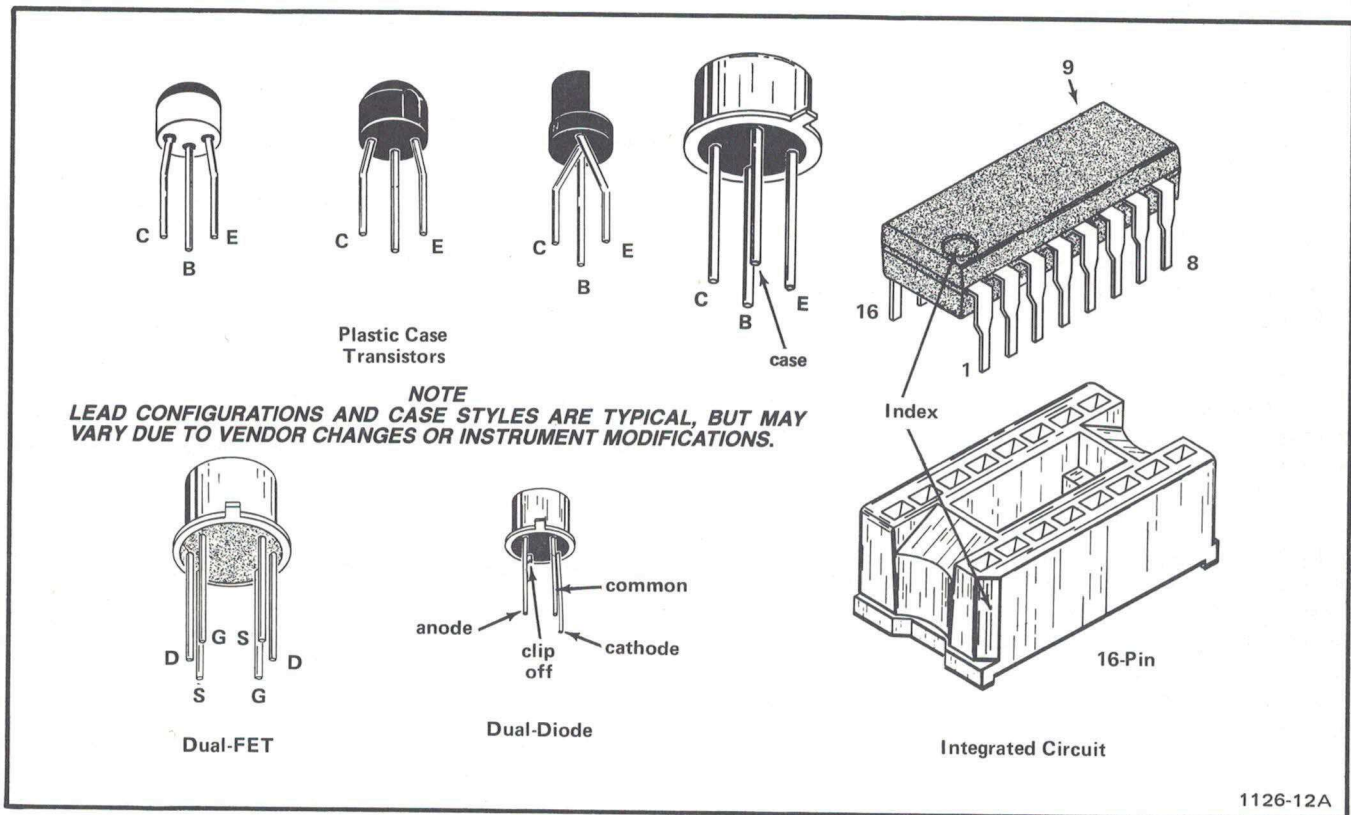

Fig. 5-1. Electrode configuration for semiconductors used in this instrument.
Semiconductor Lead Configuration. Figure 5-1 shows the lead configuration of the semiconductor devices used in this instrument.
A. TRANSISTORS AND INTEGRATED CIRCUITS. The best check of transistor and integrated circuit operation is actual performance under operating conditions. If a transistor or integrated circuit is suspected of being defective, it can best be checked by substituting a component known to be good; however, be sure that circuit conditions are not such that a replacement might also be damaged. If substitute transistors are not available, use a dynamic tester (such as TEKTRONIX 576). Static-type testers may be used, but since they do not check operation under simulated operating conditions some defects may go unnoticed. Figure 5-1 shows base pin and socket arrangements of semiconductor devices. Be sure the power is off before attempting to remove or replace any transistor or integrated circuit.